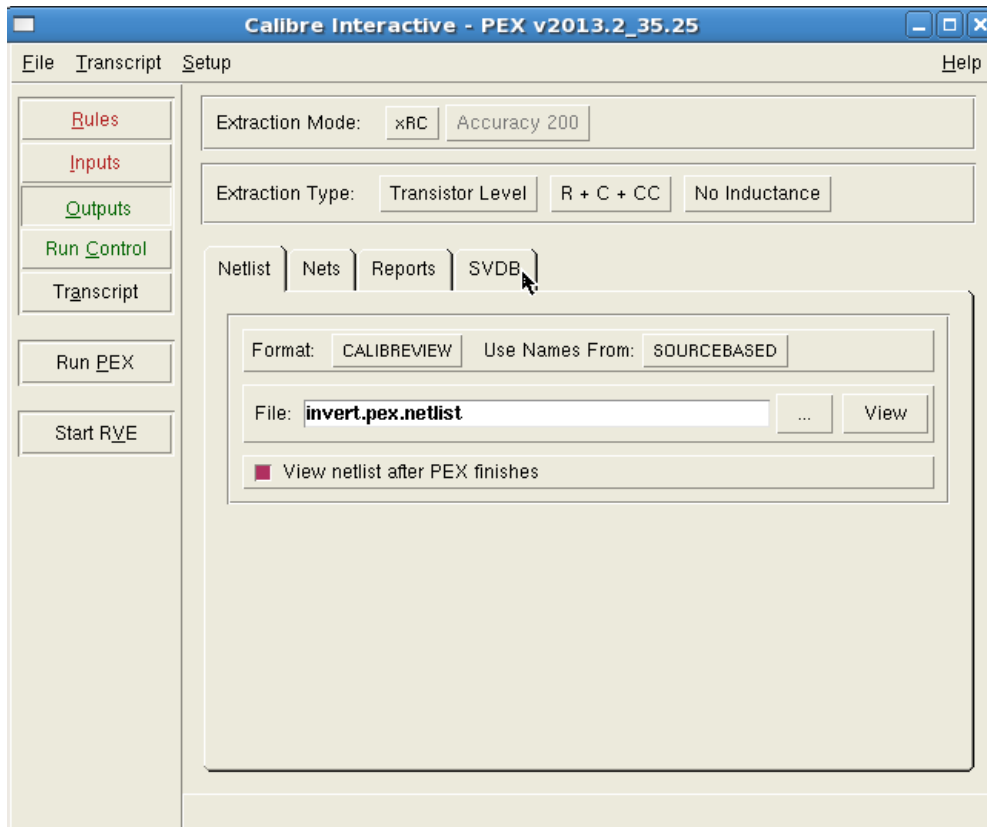

Fig.31
3. Select the "Extraction Type", specify the output format to be "CALIBREVIEW" and "Use Names From" to be "SOURCE" (fig 31).